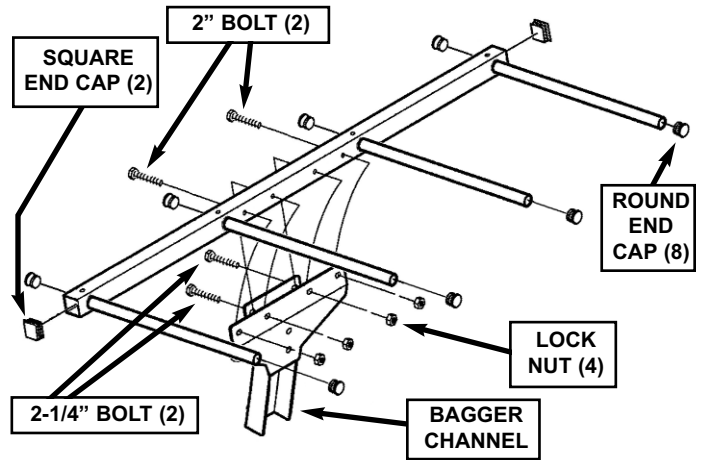

FIGURE 11
STEP 9: Install the catcher frame into the top of the bagger channel, securing with two 5/16 x 2-1/4" hex bolts in the inner two holes, and two 5/16 x 2" hex bolts in the outer two holes. See Figure 11. Secure the bolts with four hex center lock nuts, tightening securely. Also, Insert one square end cap into each end of the square tube, and one round end cap into each end of the four round tubes. See Figure 11.